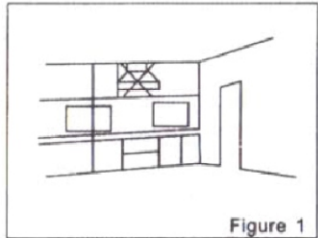

Figure 1
1. Install surroundings (shown in figure 1)